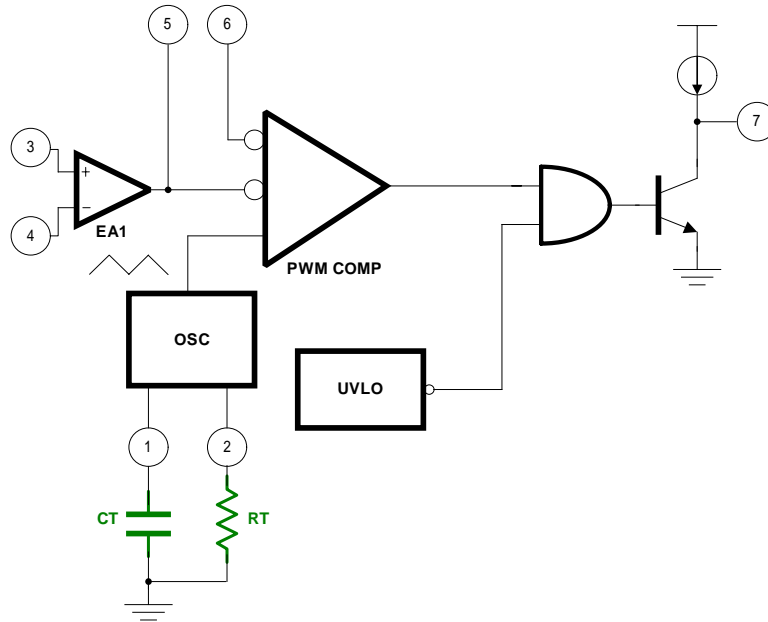
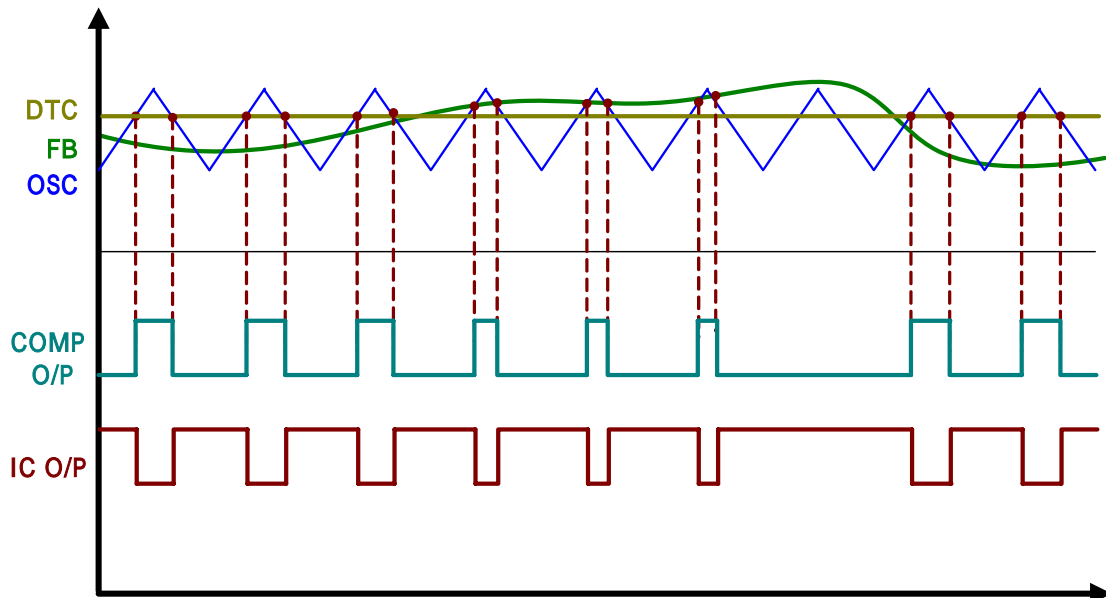

Figure 20 Oscillator/PWM Comparator with Frequency RC circuits
Figure 21 FP5452 Timing Waveforms
The oscillator frequency can be decided from 20KHz to 500KHz by the resistor (RT) and capacitor (CT) which are connected with pin1 and pin2 of **FP5452**, a sawtooth waveform would compare with feedback signal of the error amplifier and dead-time control voltage, the figure 20 is the relationship of oscillator, error amplifier and PWM comparator, and figure 21 is the waveforms of **FP5452**.